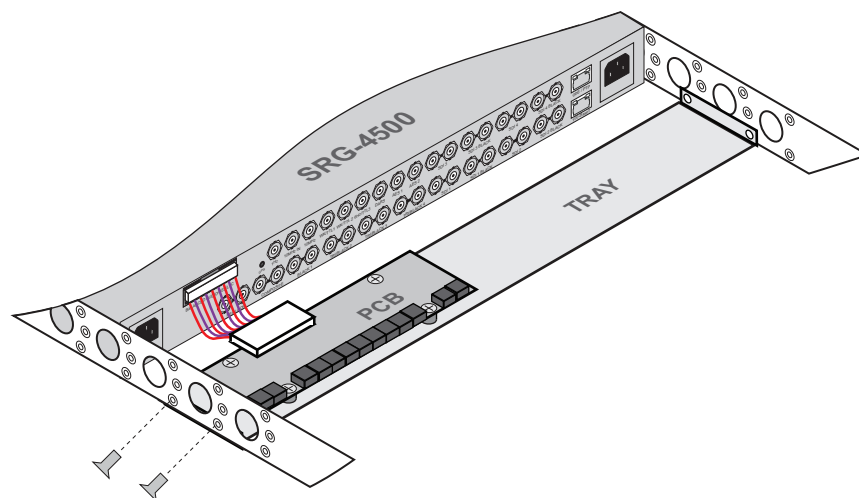

Figure 51 Connecting the Breakout PCB to the SRG-4500 Rear Panel
2. Connect the other end of the same Interface Cable to the **BALANCED** Connector on the SRG-4500 rear panel. Refer to **Figure 51**.